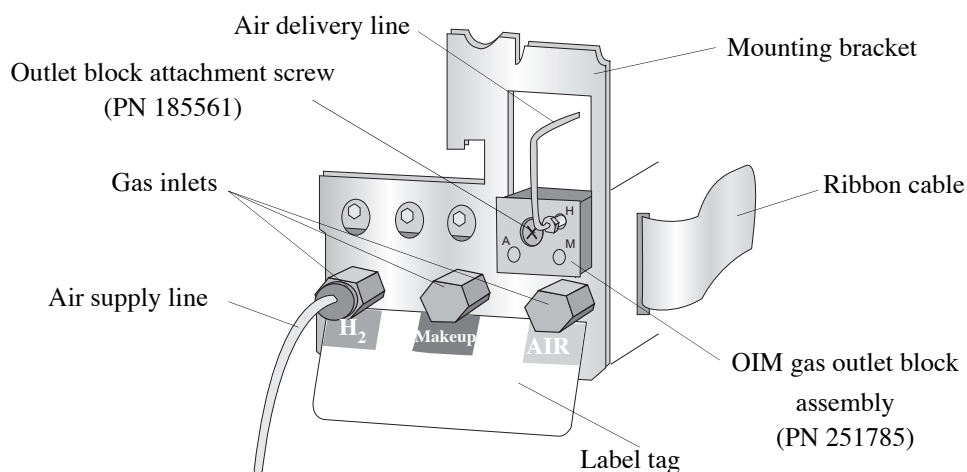

Figure 3.16. OIM gas flow module (nonventing configuration)
2. Remove the Agilent gas outlet block attached to the front upper right corner of the OIM gas flow module by unscrewing the Torx T-20 outlet block attachment screw (PN 185561) (refer to Figure 3.16). Leave the three O-rings in place
11. If not using a venting option, remove the protective cap from the gas inlet marked " H_2 " on the front of the gas flow module. Attach the air supply line to this inlet using a $\frac{1}{8}$ " brass Swagelok[®] nut and brass ferrule (refer to Figure 3.16).
14. If the venting option is not used, attach the supplied $\frac{1}{16}$ " stainless steel air delivery line (PN 193409) to the gas outlet marked as “H” on the OIM outlet block using a $\frac{1}{16}$ " nut (PN 223057) and ferrule (PN 216366) (refer to Figure 3.16). This line provides oxidant gas flow in the 20–40 mL/minute flow range to the XSD.